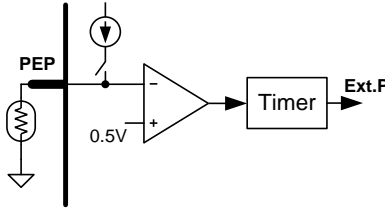

Figure 6: Primary External Protection
- **Short-circuit protection (SCP):** SCP is designed to protect the MPX2002 from over-current (OC) conditions. SCP is a surge-proof approach, which means that the device does not turn off after the first trigger. If SCP is triggered twice within 8 switching cycles, the primary side stops switching, then resumes normal operation once the condition is removed.
- **Primary external protection (PEP):** The MPX2002 has a general-purpose protection pin (PEP). The MPX2002 monitors the voltage on PEP every  $100\mu\text{s}$  to  $200\mu\text{s}$ . If the PEP pin's voltage falls below the set protection threshold of  $0.5\text{ V}$ , the PEP flag is pulled high. This pin can be used to indicate OTP for external components, or it can be used for OVP (see Figure 6).